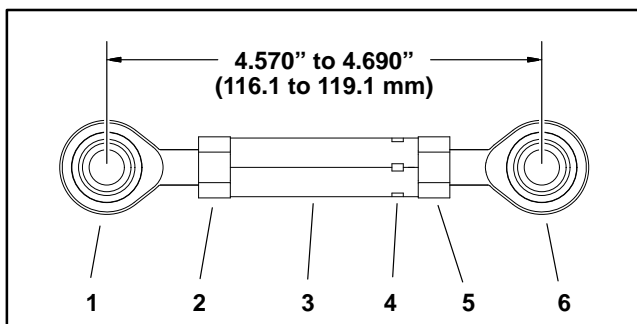

Figure 64
B. Adjust length of link assembly (Fig. 64) until alignment pin can freely slide in transmission components. Tighten link jam nuts after adjustment. To prevent binding, make sure that rod ends on link remain vertical and parallel after adjustment.